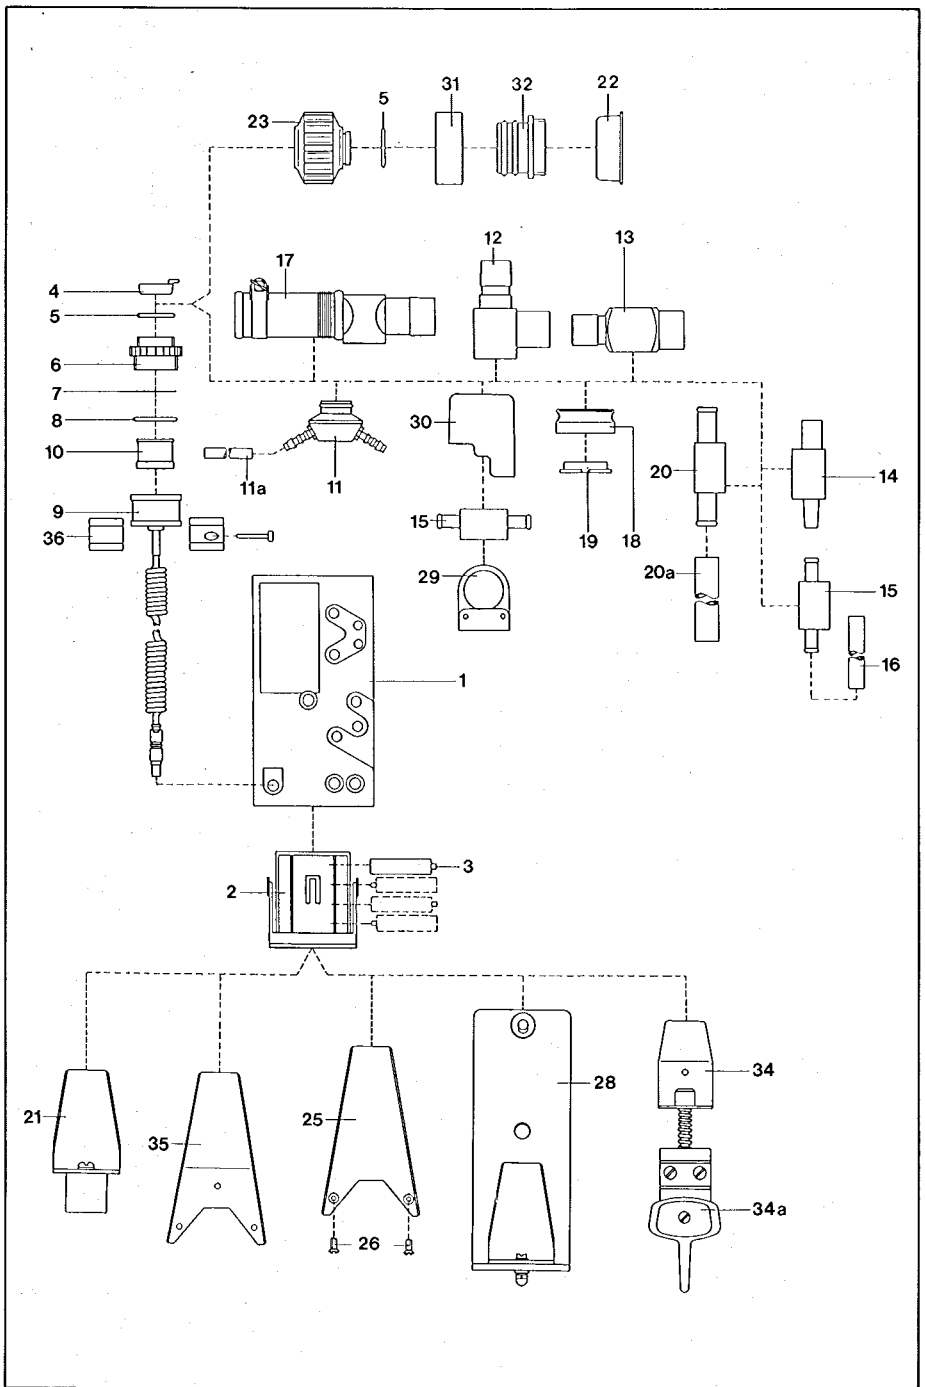

Fig. 5. Component parts
O-ring set for sensor housing (qty. 5) (item 5 in Fig. 5)	84 02 472
O-ring set for sensor housing (qty. 5) (item 8 in Fig. 5)	84 02 468
Parts List (cf. Fig. 5)